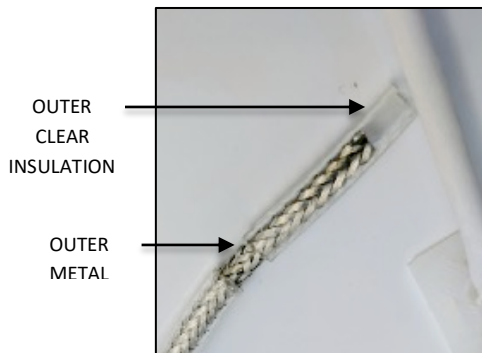
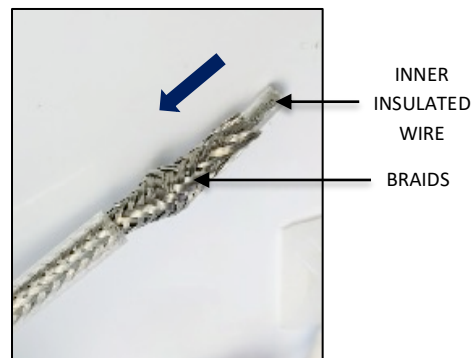

FIG. 21
FIG. 22
1. Strip off 1.00" of outer clear insulation exposing the outer metal braiding as shown in FIG. 21 below. **Be careful not to cut or damage the outer metal braiding.** Gently push braiding down to loosen the individual braids exposing the inner insulated wire as shown in FIG. 22 below.